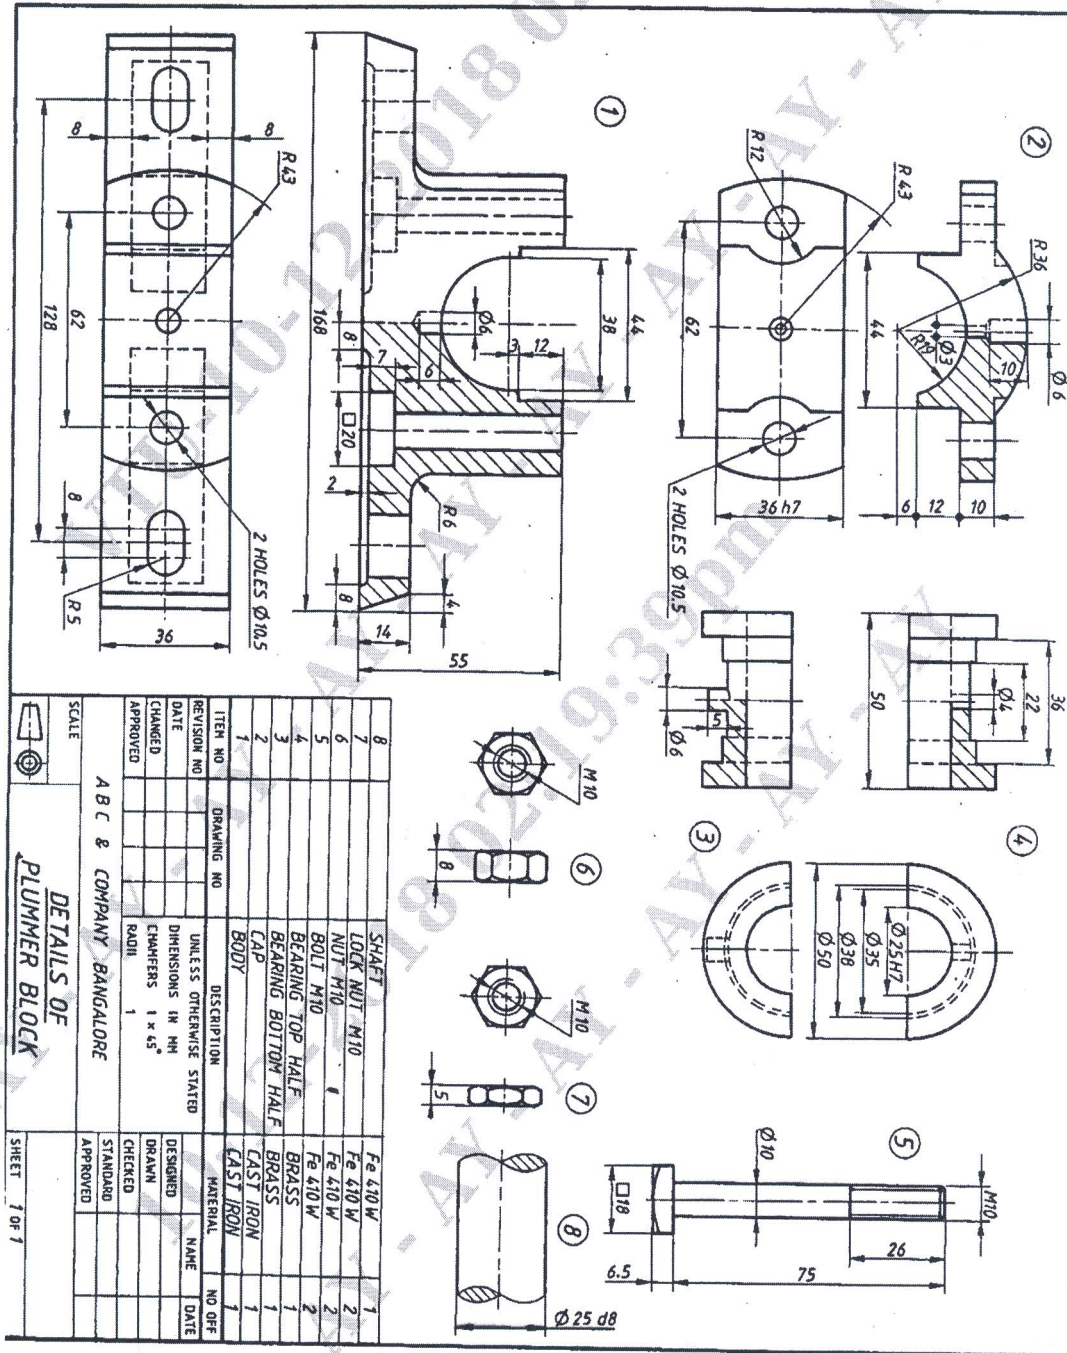

Figure 2 : Details of Plummer Block
- Q.No.5** Draw a Half sectional front view and top of a Plummer block assembly (Figure 2). (50 Marks)